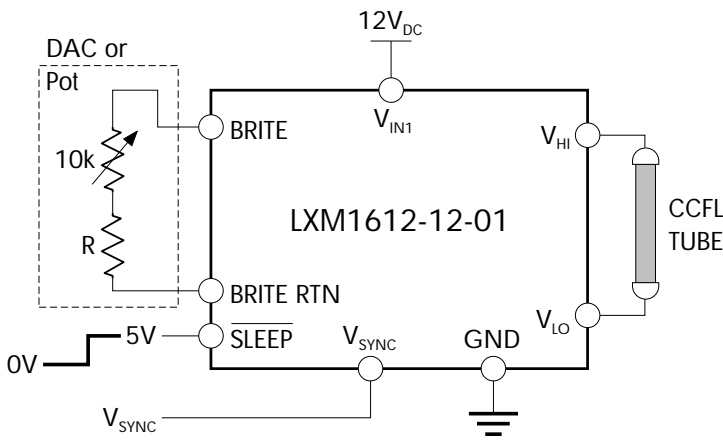
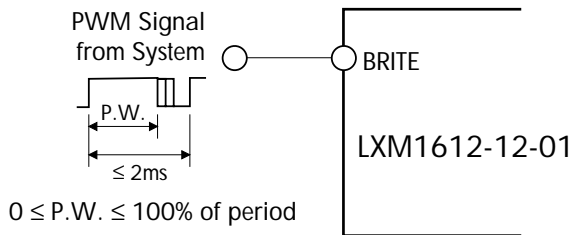

FIGURE 5 — Potentiometer Brightness Control
FIGURE 5A — PWM Brightness Control
- The brightness control may be a voltage output DAC, digital resistor or a simple 10k potentiometer. If desired, an additional series resistor with the 10k potentiometer can be used to set a higher minimum brightness setting as shown in Figure 5. A 2.5V to 5V Logic Level PWM signal from a micro-controller may also be used as shown in Figure 5A.